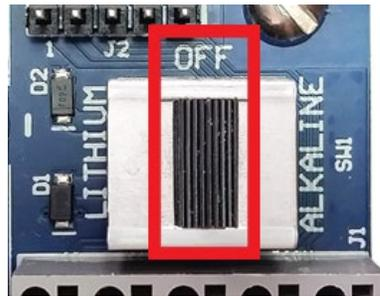

Figure 23 - Battery Selector Switch in OFF Position
- 2) Power off the Network Supervisor by moving the battery select switch to the “OFF” position (Figure 23), or by disconnecting the external battery. (For units manufactured prior to June 2017, which do not have an OFF position, remove the D cells from the battery holder.)